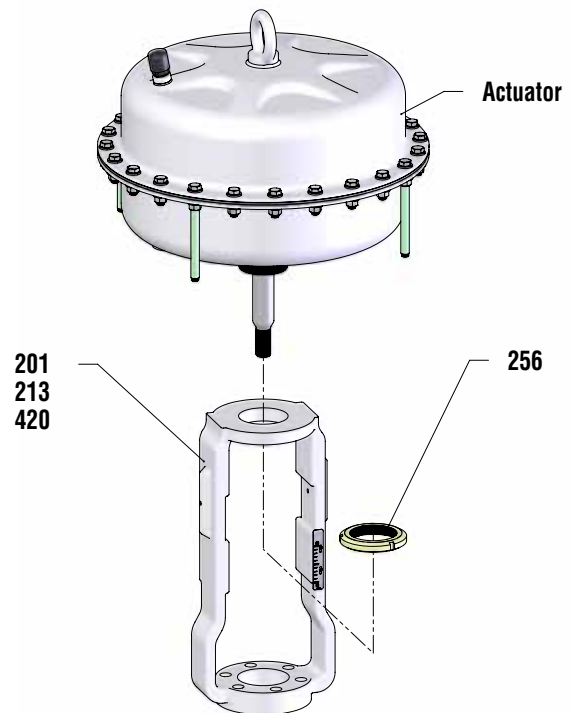

Figure 29: Coupling parts
7. If necessary mount actuator onto the yoke (201) put in line with the mark and tighten the actuator locknut (256) counter-clockwise. The vent plug shall be at a right angle to the yoke legs (see figure 29).